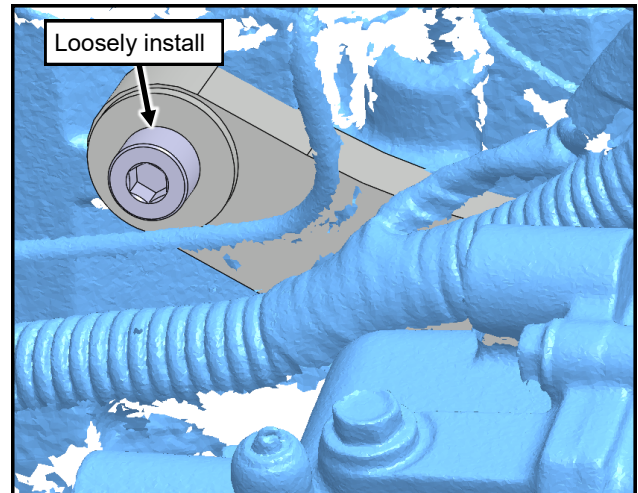

Fig. 1.38 (Loosely install M8x1.25 x 25 socket head screw)
1.38 With a fender washer and supplied red Loctite, loosely thread in an M8x1.25 x 18 socket head screw into the hole shown in Figure 1.38.